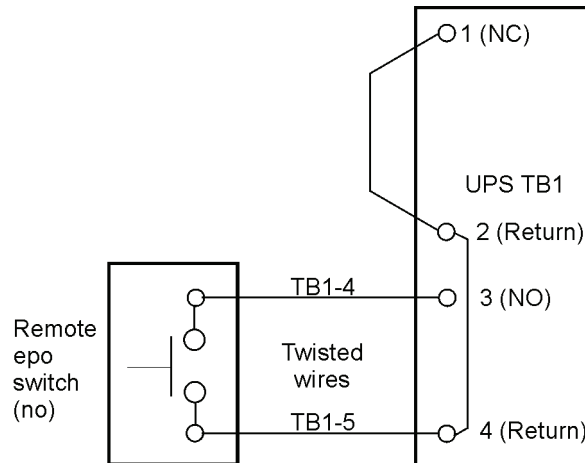

Figure 4-17. Normally-open remote EPO switch wiring
8. Route and connect the wiring as shown in Table 4-2 and Figure 4-17.